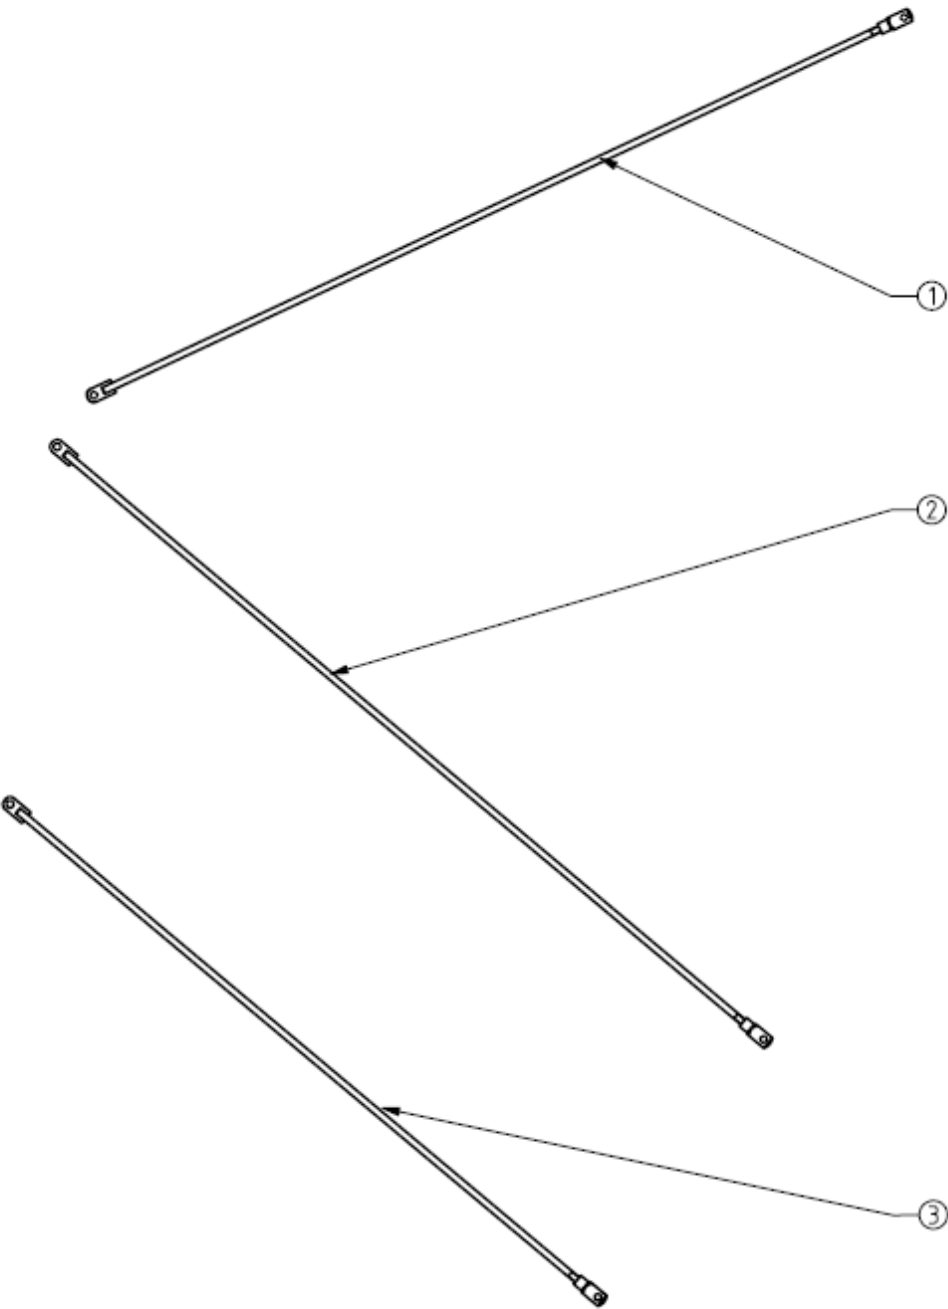
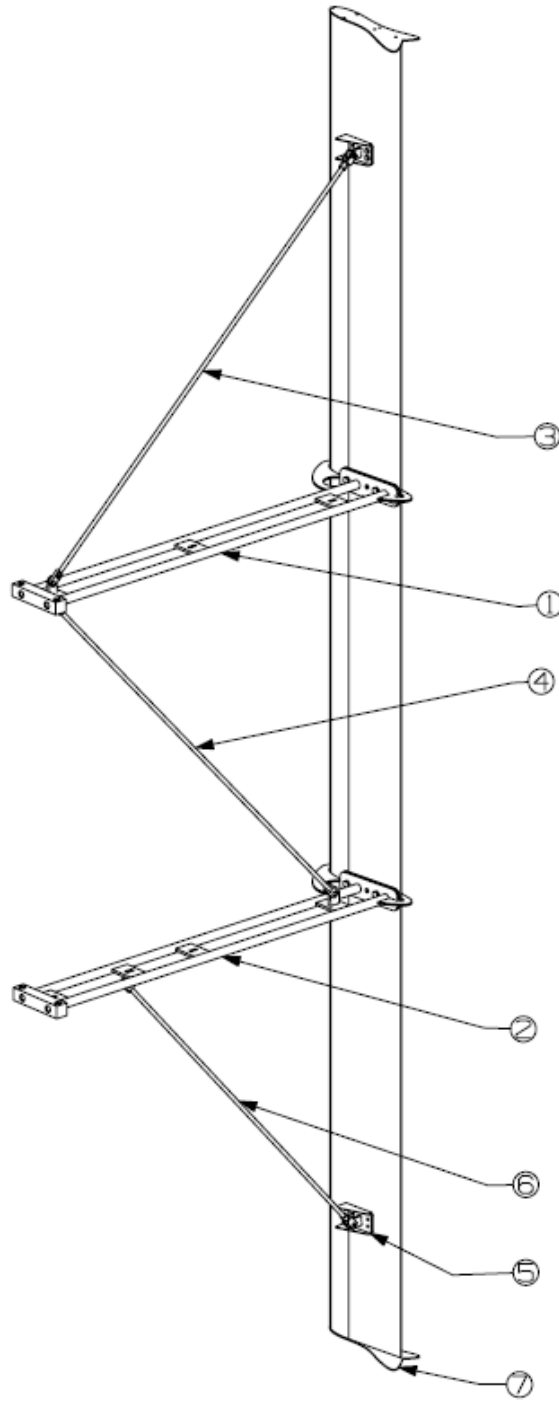

FIGURE 3
FIGURE 7
5. Screw down the lower rod brace bracket to the blade using M6x20 countersunk head screws (Fig. 7). The bracket has an arm with a hole, which is inclined at an angle of 3°. The bracket is to be oriented with its inclination towards the leading edge of the blade. Apply a small amount of red threadlocker to the threads of the screws and tighten initially. Then tighten with a torque wrench to 20 Nm.
6. Fasten the rod braces (Fig. 3) as shown in Fig. 7 using M10x35 hexagon head bolts, fi 13 washers and self-locking nuts. Apply red threadlocker to the bolt thread before tightening the nut. The bolt tightening torque is 80 Nm. Place white plastic caps on all bolt heads and nuts.